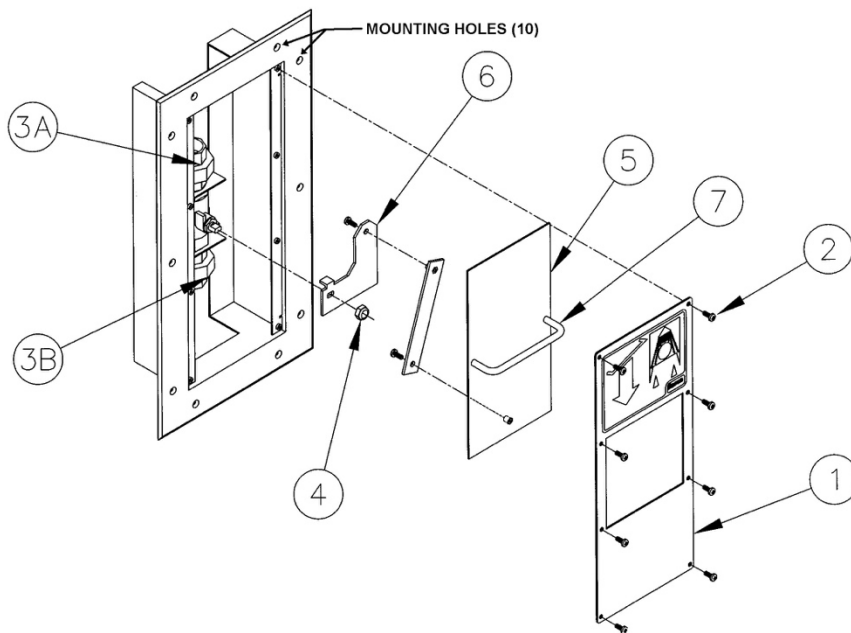

FIGURE 3
3. The recessed cabinet is packaged fully assembled. Prior to wall installation, remove plate cover (#1) by unscrewing eight 3/8x10-32 screws (#2) using a Phillips screwdriver. **CAUTION: DO NOT USE A POWER TOOL OR AN AIR TOOL.** For component parts list, see **Figure 3** on page 2. Place plate cover and screws to one side.